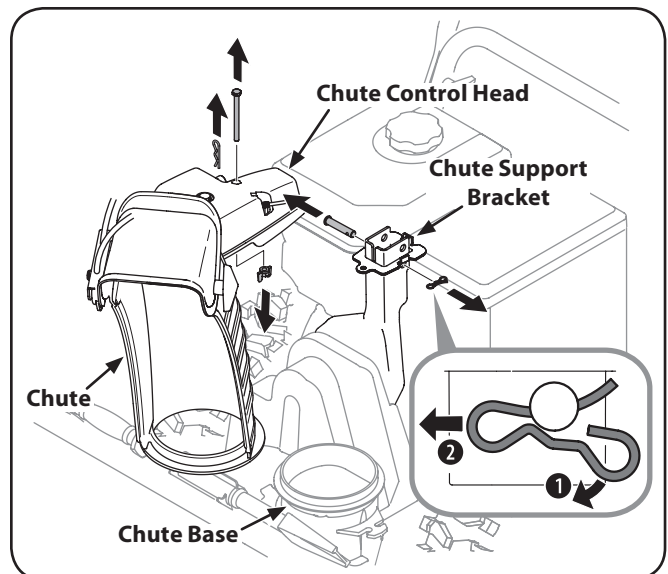

Figure 3-3
1. Remove cotter pin, wing nut and hex screw from chute control head and clevis pin and bow-tie cotter pin from chute support bracket. See Fig. 3-3.
8. Finish securing chute control head to chute support bracket with wing nut, clevis pin, and bow-tie cotter pin removed in step 1. See Fig. 3-3.